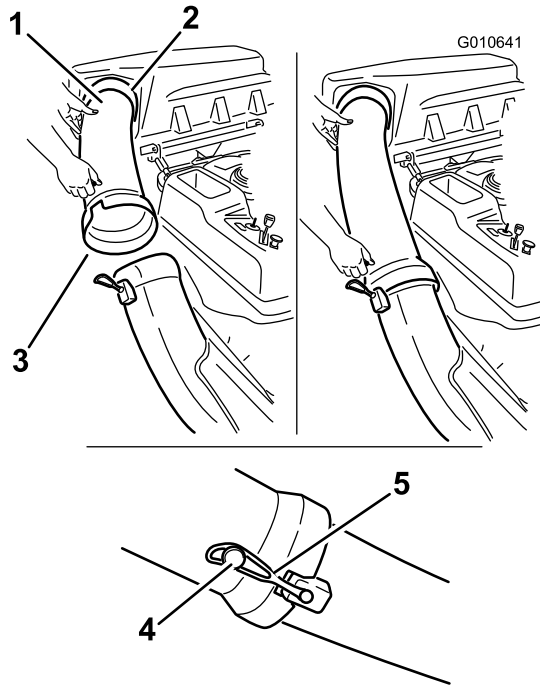

Figure 23
- Slide the curved end of the discharge tube into the opening in the bagger top (Figure 23).
- Slide the flared end of the discharge tube over the end of the chute. Move the rubber retaining strap on the chute snaps over the peg on the discharge tube to secure it (Figure 23).